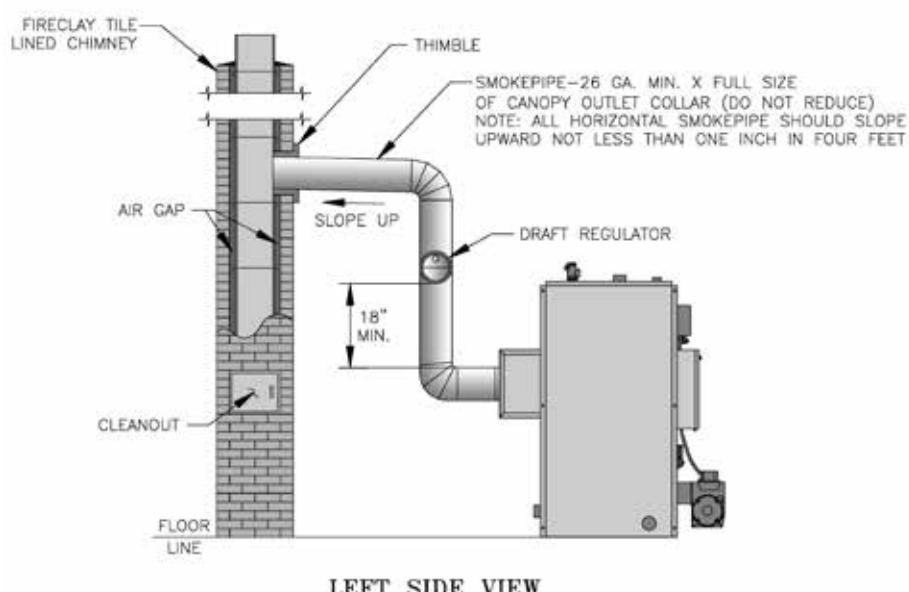

Figure 9: Recommended Smoke Pipe Arrangement and Chimney Requirements
2. The FRT™ Series is designed to be vented into a fireclay tile-lined masonry chimney or chimney constructed from type-L vent or a factory built chimney that complies with the type HT requirements of UL103. The chimney or vent pipe shall have a sufficient draft at all times, to assure safe proper operation of the boiler. See Figure 9 for recommended installation.